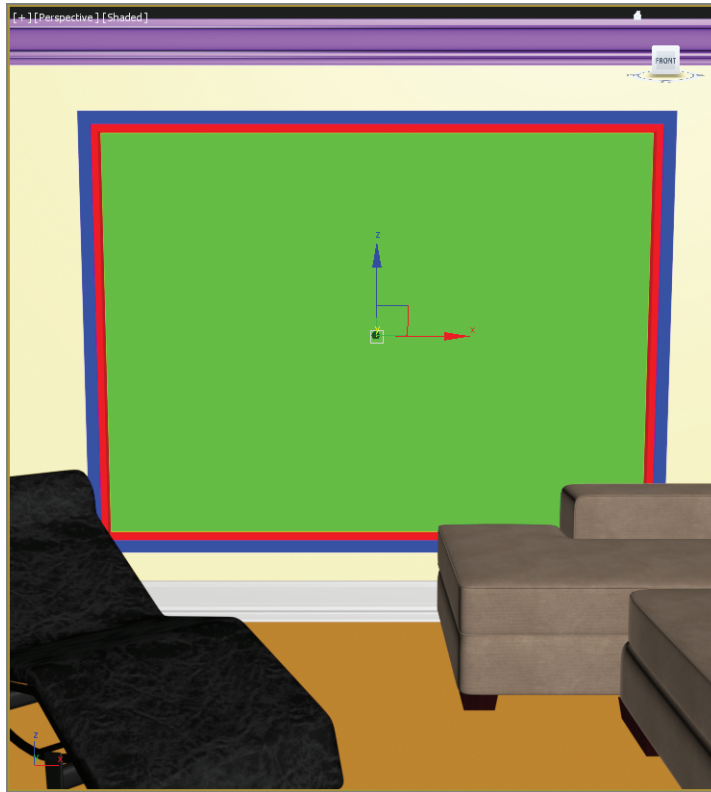

FIGURE 10.22 The Multi/Sub-Object Material applied to the window object shows the different colors applied to the different parts of the window.
6. Apply the MSOM to the window in the living room area, as shown in Figure 10.22. The colors show clearly which section of the window corresponds to which ID number.